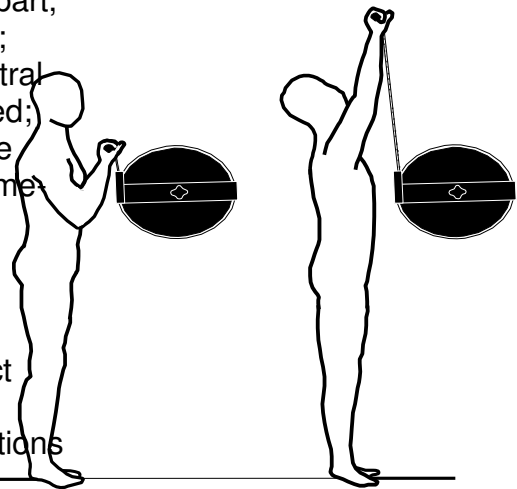

Figure 3
3. Adjust the exercise head height so the subject can comfortably hold the handle in the knuckle position. Enter the height in the NOTES field if desired. Demonstrate to the subject the motion being tested (shoulder to overhead lift), and the proper positioning as described below (Figure 3).